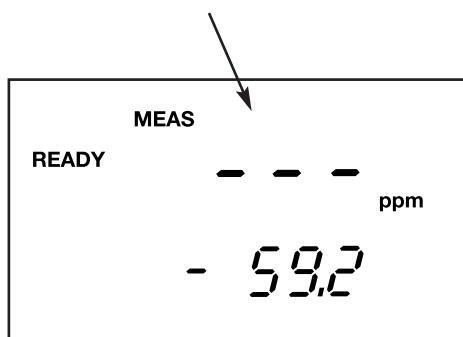

Figure 31
2. Press **MODE** to select ion measurement mode. If the meter has not been previously calibrated in the Ion mode, the display will read "- - -" in the primary display —See Figure 31.